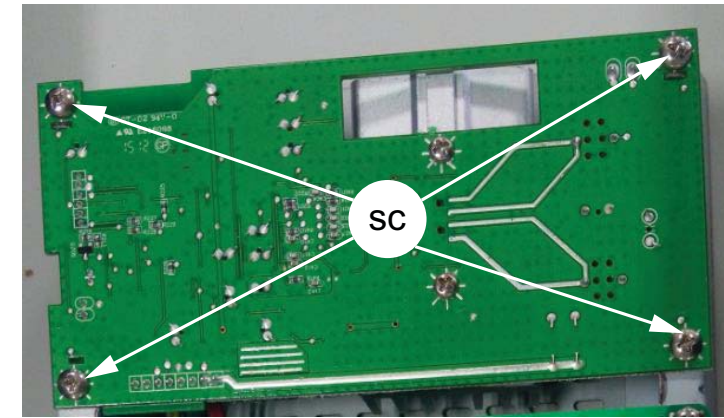

Figure W3
1) Loosen 4 screws "SC" on the top of Main Board as shown in figure W3 to remove the Main board.